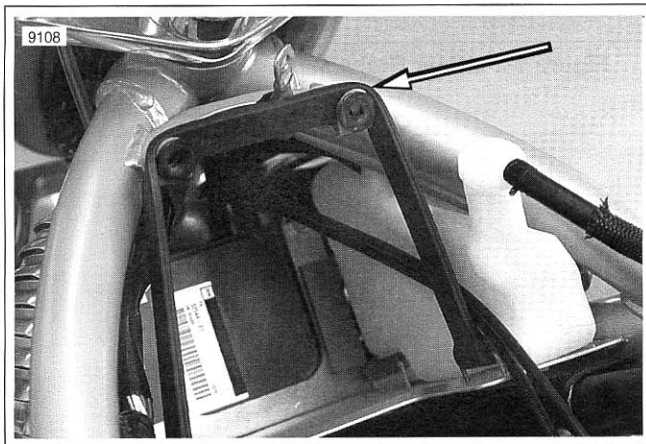

Figure 1-22. Position Hold-down Strap
1. See Figure 1-22. Stretch rubber hold-down strap over airbox cover frame tabs.